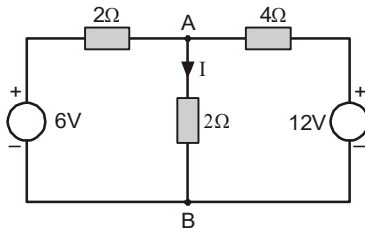

Fig.1.108: Given circuit
1. Find current I using thevenin's theorem in the circuit shown in fig.1.108